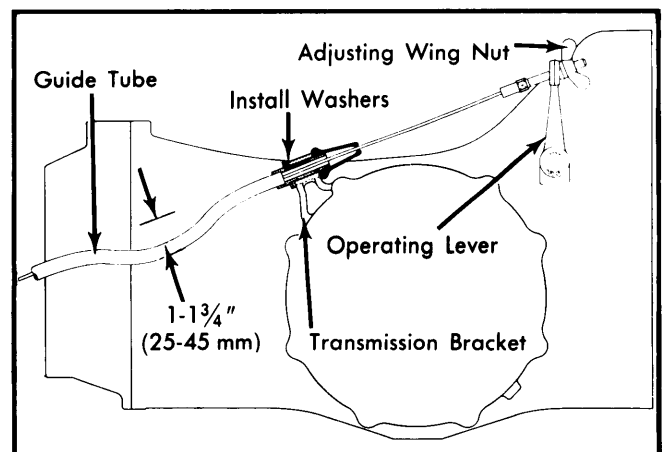

Fig. 2 Clutch Cable Measuring and Adjustment Points
**Guide Tube** — Clutch cable guide tube should sag approximately 1-13/4" (25-45 mm). See Fig. 2. This preload is obtained by inserting or removing washers between bracket on transmission and end piece of guide tube.